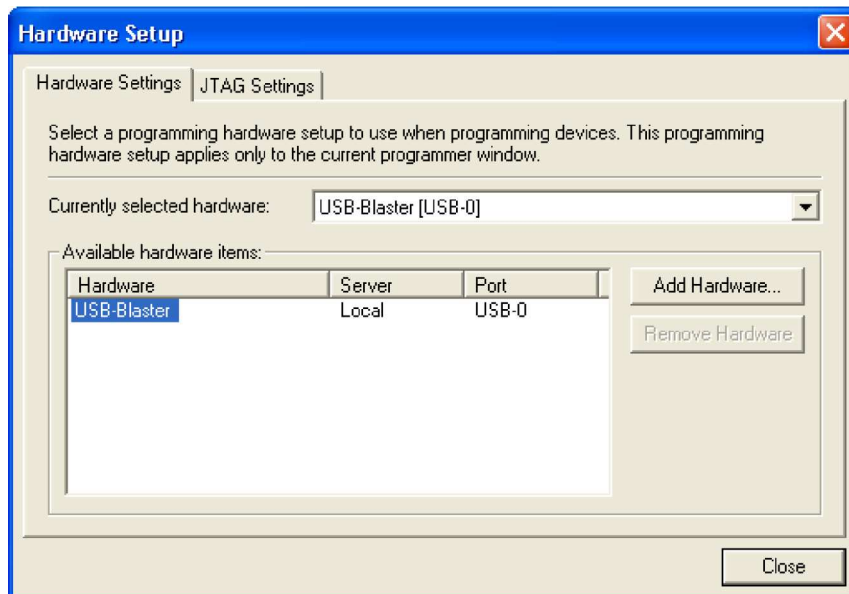

Figure 10. Setting up hardware.
- For SignalTap II to work, we need to properly set up the hardware. First, make sure the DE1 board is plugged in and turned on. In the Hardware section of the SignalTap II window, located in the top right corner, click **Setup**, bringing up the window in Figure 10. Double click **USB-Blaster** in the Available Hardware Items menu, then click **Close**.